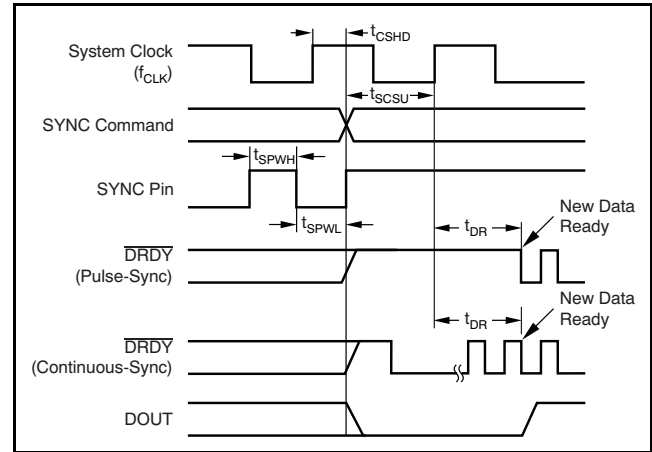
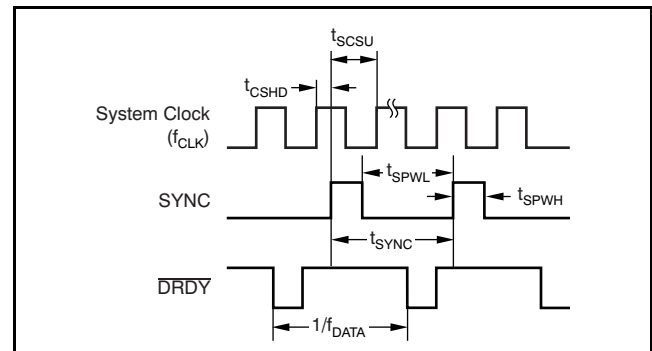

**Figure 38. Pulse-Sync Timing, Continuous-Sync Timing with Single Sync**
**Figure 39. Continuous-Sync Timing with Sync Clock**
In Pulse-sync mode, the ADS1281 stops and restarts the conversion process when a sync event occurs (by pin or command). When the sync event occurs, the device resets the internal memory; DRDY goes high, and after the digital filter has settled, new conversion data are available, as shown in Figure 38 and Table 11.
In Continuous-sync mode, either a single sync pulse or a continuous clock may be applied. When a single sync pulse is applied (rising edge), the device behaves similar to the Pulse-sync mode. However, in this mode, DRDY continues to toggle unaffected but the DOUT output is held low until data are ready. When the conversion data are non-zero, new conversion data are ready (as shown in Figure 38).
When the sync input is first applied on the first rising edge of CLK, the device re-synchronizes (under the condition  $t_{\text{SYNC}} \neq N/f_{\text{DATA}}$ ). DRDY continues to output but DOUT is held low until the new data are ready. Then, if the period of the applied sync clock matches an integral multiple of the output data rate, the device freely runs without re-synchronization. The phase of the applied clock and output data rate (DRDY) are not matched as a result of the initial delay of DRDY after SYNC is applied. Figure 39 shows the timing for Continuous-sync mode.
**Table 11. Pulse-Sync Timing for Figure 38 and Figure 39**